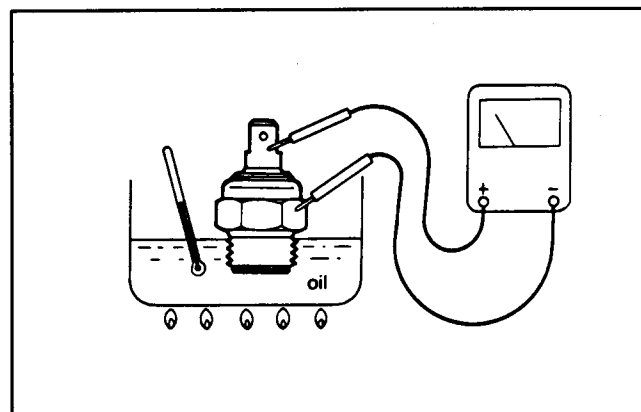

Figure 15
2. Put the switch in a container of oil with a thermometer and heat the oil (Fig. 15).
3. The switch is normally open (NO) and should close at 226 - 237° F (108 - 114° C).